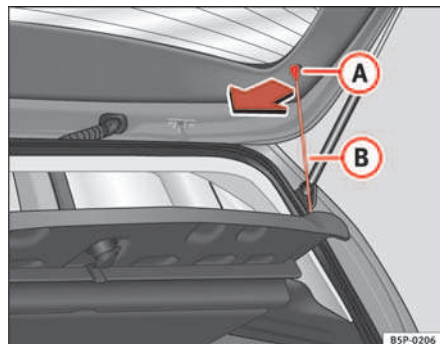

Fig. 119 Luggage compartment cover
- Disengage the loops ⇒ **fig. 119 B** from the allotments **A**